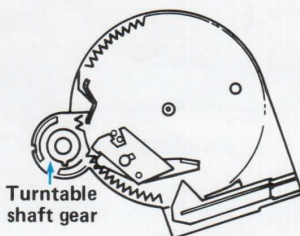

Fig. 3
c. Before sliding the turntable platter over the turntable shaft, be sure the turntable shaft gear moves freely as shown in Fig. 3.